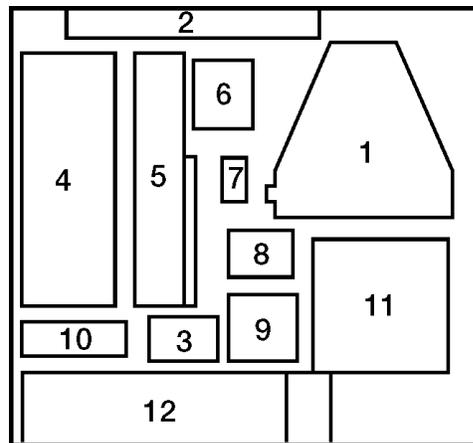

Figure 3-86. MTS Control Station Box Layout
- b. MTS Control Station Box Layout (see Figure 3-86) and MTS Control Station Layout Listing (see Figure 3-87).
- (1) Transceiver Satellite Modem.
- (2) MTS Manual.
- (3) Open cavity.
- (4) Printer.
- (5) Laptop computer.
- (6) Port expander.
- (7) Power adapter, printer.
- (8) Battery, spare, printer.
- (9) Color cartridge, printer.
- (10) Power adapter, laptop.